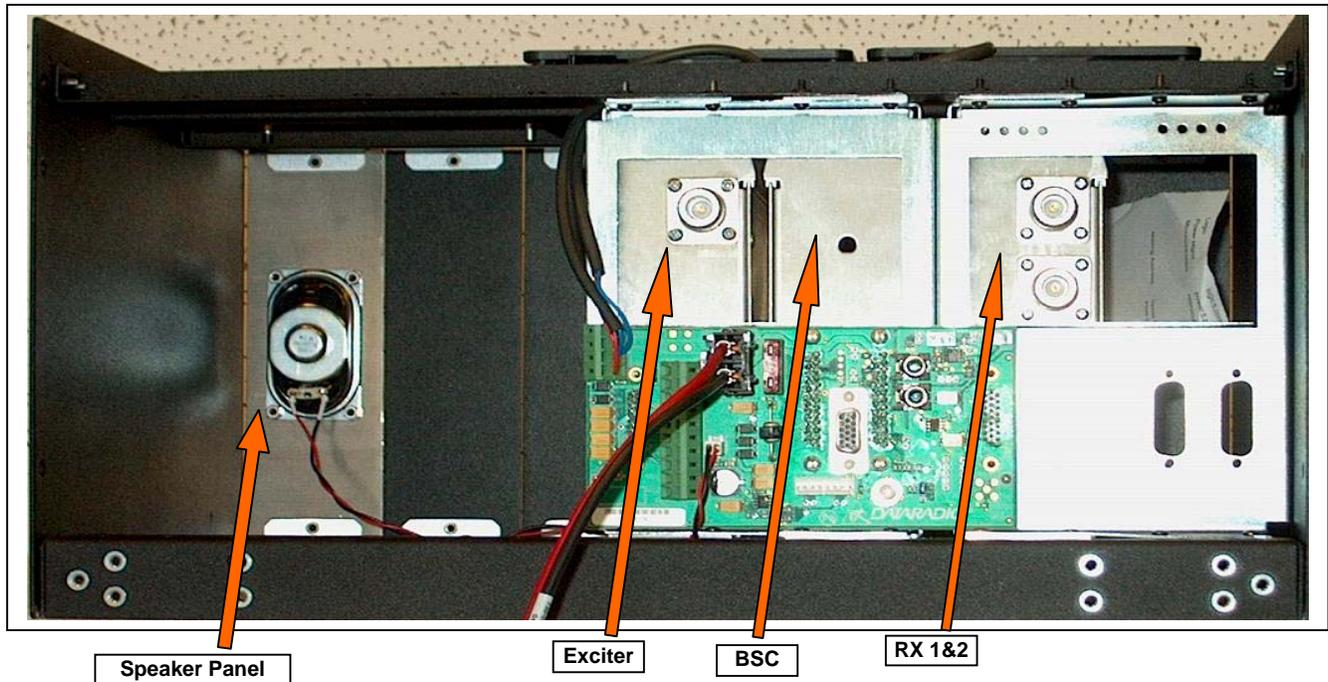

Figure 2 - Paragon4 unit rear view
- 2- Referring to Figure 2 for locating modules, terminate the RX-1 and RX-2 cable-ends at their respective module rear position with N-type connectors.
For locating the module, refer to Figure 2 above.